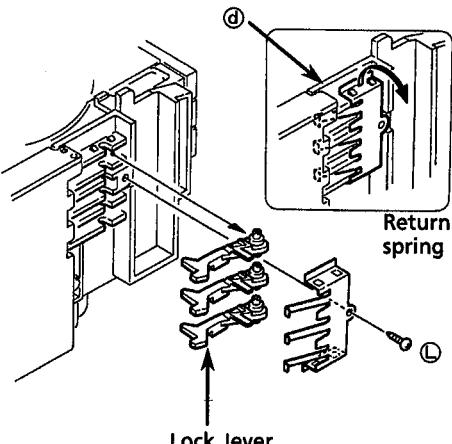
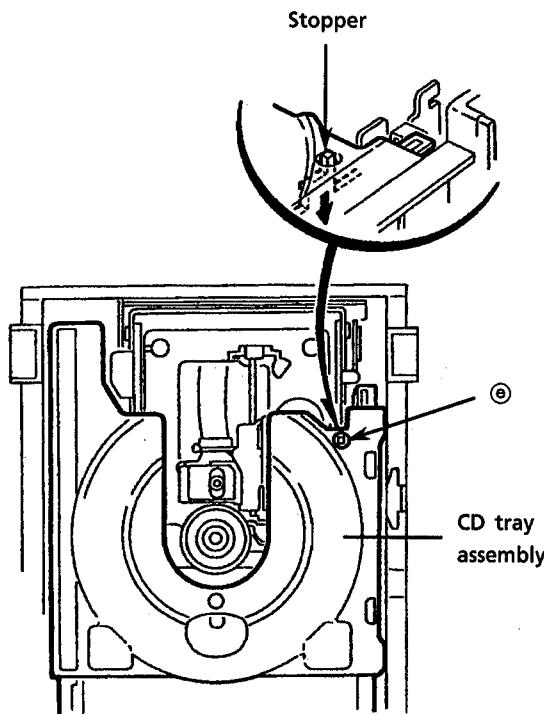

Fig.30
Fig. 31
7. Remove a screw ③which secures the return spring and lock levers from the chassis ass'y.(See Fig. 30.)
8. Remove 2 palls④ which slightly secure the return spring to remove it.
10. Check that the lifter unit stopper is inserted into hole © located on CD tray ass'y. (See Fig. 31.)